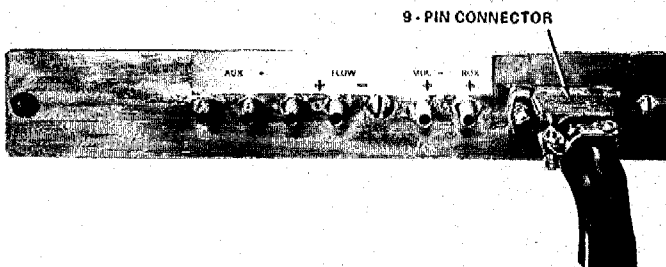

Figure 7 - Body Box - Left Side Connector Panel
C.6. Locate the cable with a 9-pin connector on the free end. Plug the connector into the socket on the left side of the Body Box (Figure 7), then tighten the two hold-down screws.
C.8. Locate the four loose pieces of plastic tubing. Connect them between the Electronics Console and the Body Box (Figures 7 and 8) as follows: